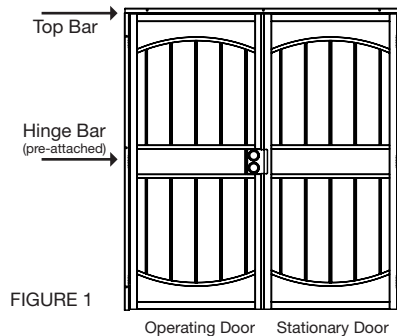

FIGURE 1
1. Identify which side the operating door is located on. It can be on either the left or right side. Operating door includes the handle set lock box (Fig. 1).